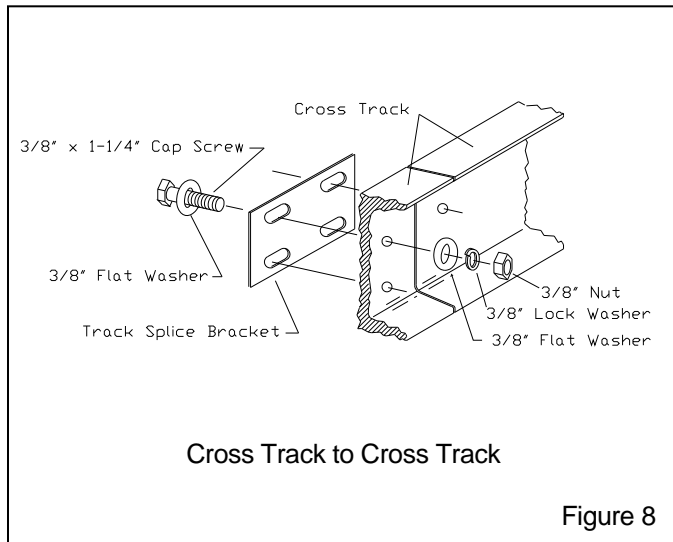

Figure 8
2.4.3 Bolt the cross conveyor tracks together, using fasteners and track splice brackets shown in Figure 8.